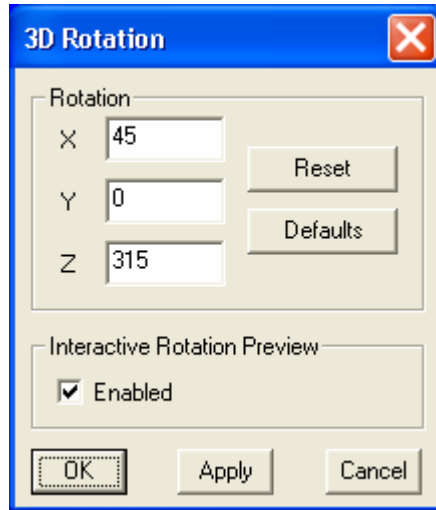

Figure 4-7
- ❑ Use the 3D graph rotation dialog box shown in Figure 4-7. This dialog box allows you to enter the x, y, z rotation of the 3D graph.